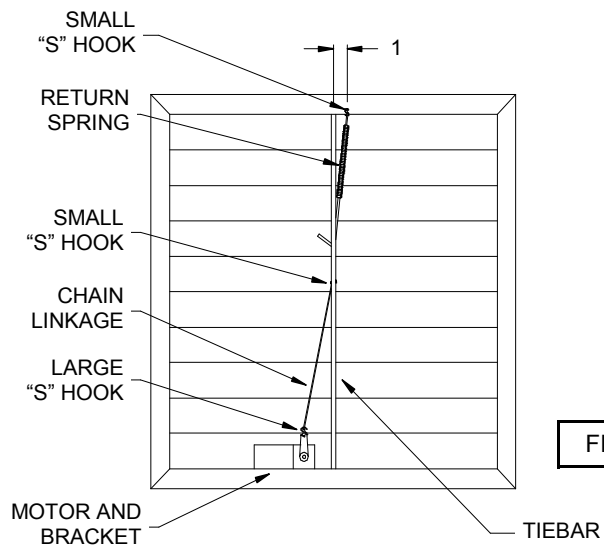

FIGURE 3
3. PLACE SHUTTER MOTOR BRACKET SPACER IN THE NOTCH ON THE INSIDE BOTTOM OF THE SHUTTER FRAME. MOUNT THE MOTOR BRACKET, WITH THE MOTOR ATTACHED, TO THE SHUTTER BY BOLTING THROUGH THE SHUTTER MOTOR BRACKET, THE SHUTTER MOTOR BRACKET SPACER AND THE DRILLED HOLES IN THE SHUTTER FRAME USING THE TWO (2) #10 BOLTS, LOCK WASHERS AND HEX NUTS SUPPLIED.
4. PLACE A SMALL S-HOOK IN THE HOLE IN THE TIE BAR APPROXIMATELY HALFWAY UP THE TIE BAR. MOVE THE CRANK ARM TO THE "UP" POSITION, AS IN FIGURE 3. WITH THE SHUTTER BLADES IN THE CLOSED POSITION, CUT THE CHAIN LINKAGE TO THE CORRECT LENGTH AND ATTACH IT TO THE S-HOOK IN THE TIE BAR. DISCARD EXTRA CHAIN LINKAGE AND S-HOOKS.